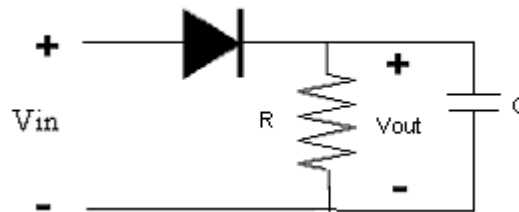

Figure 9. AC-DC converter
1. Build the AC-DC converter shown in figure 9. Use the same input3 as Part One, use  $R=1M$  and use  $C=22\mu F$ . Calculate the time constant of the circuit. Have your TA checkoff your working circuit.